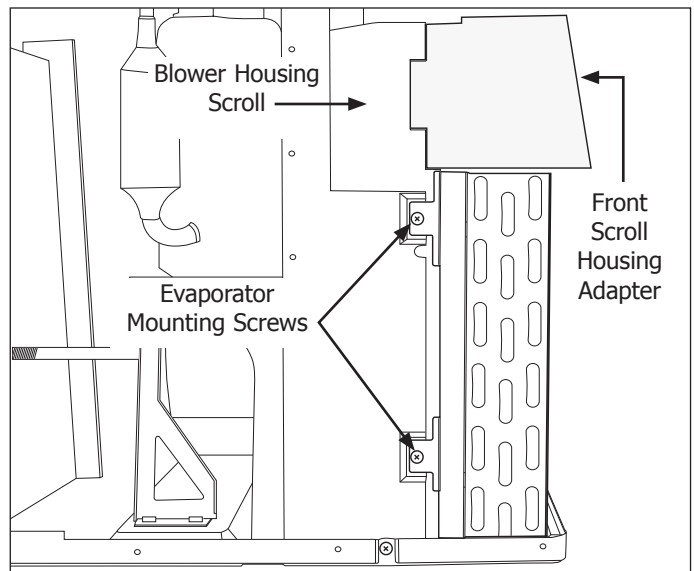

**Figure 4-87.**
6. Extract the two screws securing the bottom of the condenser to the unit base. (See Figure 4-87)